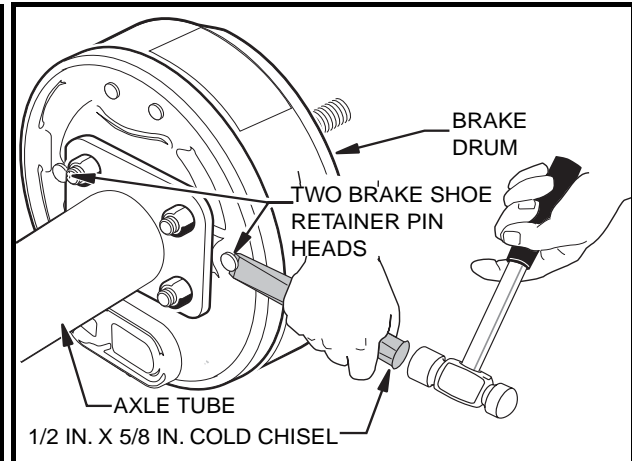

Figure 6-2 Shoe Retainer Pins
- 7.2. Insert a 1/2 inch x 5/8 inch cold chisel under the head of each pin and shear them off as illustrated (**Figure 6-2, Page 6-2**). This will release the shoes from the backing plate, allowing them to pivot away from the inside of the brake drum, which should then allow the brake drum to be pulled free. After completing step 8, skip step 9.